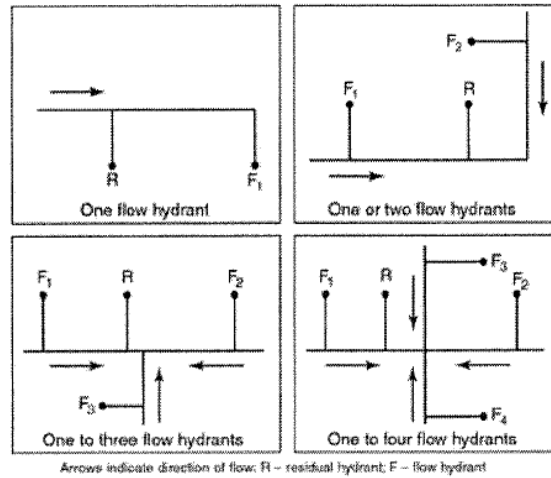

FIGURE 4.3.4 Suggested Test Layout for Hydrants.
- D. This Hydrant is chosen so it will be located between the hydrant to be flowed and the large mains that constitute the immediate sources of water supply in the area. In Figure 4.3.4, test layouts are indicated showing the residual hydrant designated with the letter R and hydrants to be flowed with the letter F.